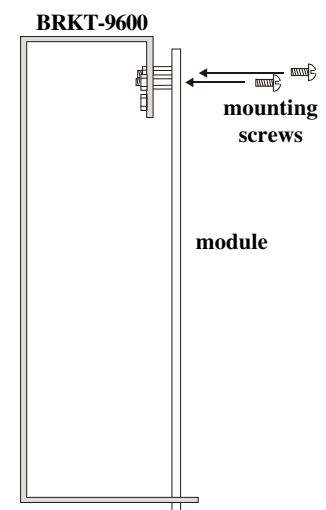

Figure 3: Universal Bracket (mounting)
3. Secure module to the standoffs installed in the top of the BRKT-9600 with two mounting screws as illustrated in Figure 3.